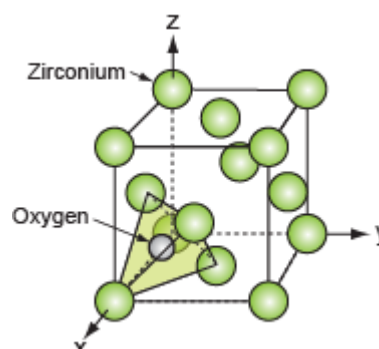

Figure C40. The M atoms of fluorite-structured oxides pack in an FCC array, with oxygen in the tetrahedral interstices.
The metal atoms in the important technical ceramic zirconium dioxide, ZrO_2 and the nuclear fuel uranium dioxide, UO_2 . Zirconium and Uranium lie far down in the periodic table and are large in size – larger than the Oxygen. In these it is the Zr or U atoms that form a close packed FCC structure and it is the oxygens that fit into the tetrahedral interstices in it, as shown in Figure C40.
- E38.** Use the symmetry of the structure to infer how many tetrahedral holes there are in the FCC unit cell of Figure C40.